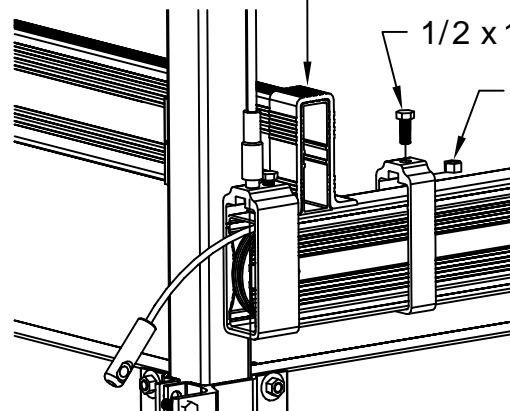

Fig. 5B
- ❑ Side (1) cradle clamp over each end of the front and rear cradle beams. Place (1) cradle U-clamp over each side cradle so it is flush with the end. Attach the 121" rear cradle beam by sliding the cradle clamps over the cradle U-clamps. Side a cradle clamp over each end of the rear cradle beam and U-clamp. See Fig. 5B and 5D.